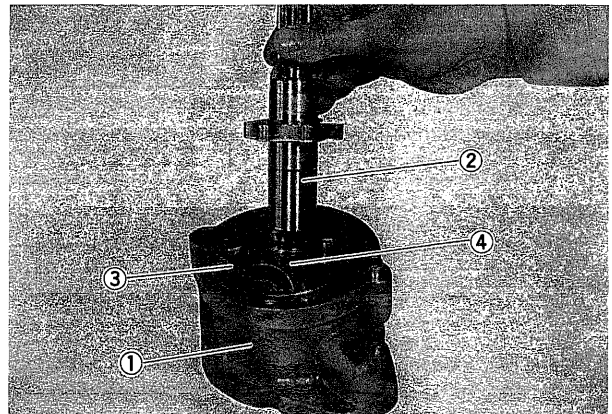

Fig. 18
- 4) Pull off pump shaft ② from pump body ①. Then take out outer rotor ③ and bearing ④. (Fig. 18)